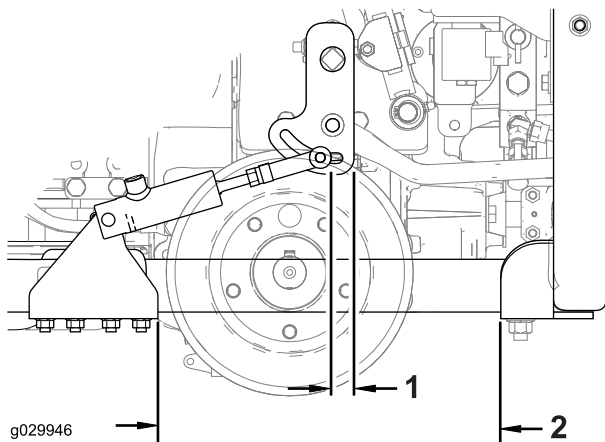

Figure 10
- Fully extend the cylinder and position the cylinder mount to the dimensions shown in Figure 10.